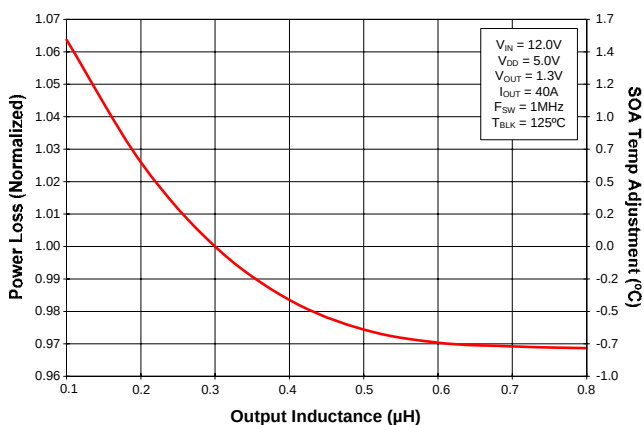

Figure 5 Normalized Power Loss vs. Inductance
| (Figure 5) | Normalized power loss for output inductor ≈ 1.026 |
- (Figure 5) SOA temperature adjustment for output inductor $\approx 0.6^{\circ}\text{C}$